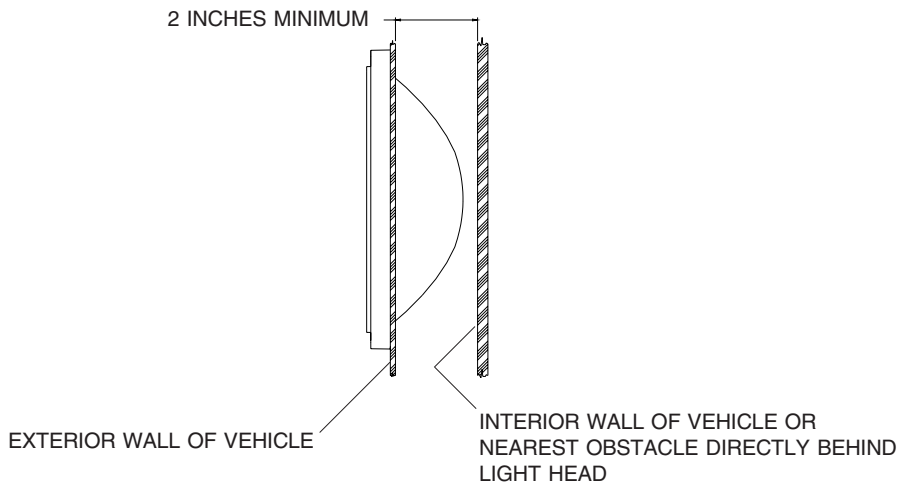

FIGURE 2
2. Verify 2 inches minimum free clearance behind the mounting surface, see Figure 2.